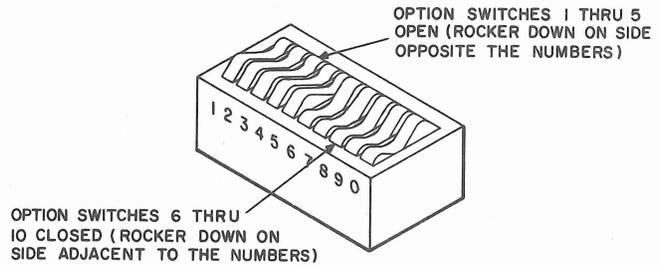

Fig. 3—Details of Option Switch
2.06 Installer options are accomplished by setting the positions of individual rockers of four multiple section rocker assemblies (Fig. 3). Refer